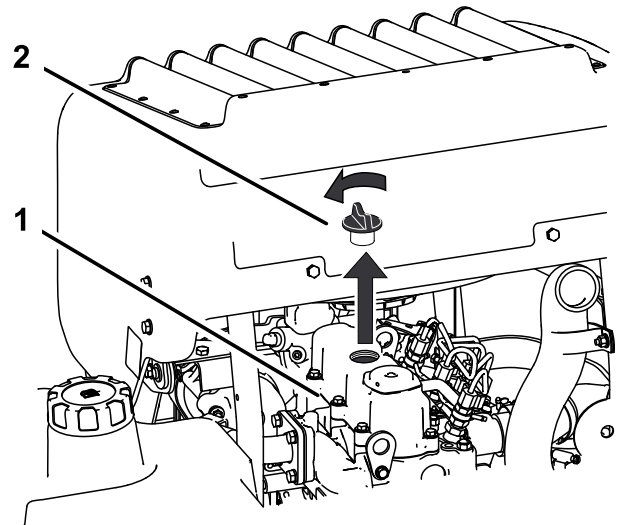

Figure 52
6. Remove the oil filler cap from the top of the engine (Figure 52).
2. Remove the oil-fill cap and dipstick (Figure 52).